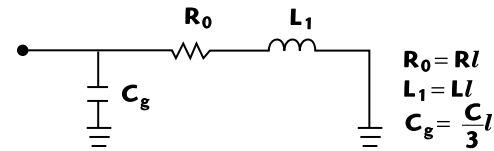

Figure 9: Low frequency lumped equivalent circuit for short-circuited lossy line
We recognize this as the admittance of the circuit shown in Figure 9. The inductance and capacitance both impose limits on how well matched we can make the termination over a given bandwidth.
In the late 1940s, H.W. Bode considered the problem of impedance matching two-element RC or RL loads.³ Bode's work was extended and generalized by Fano⁴ in 1950; Fano presented the limitations on impedance matching any load over an angular frequency range, ω_a to ω_b . However, for illustrative purposes, let us consider the case analyzed by Bode, i.e., where the inductive reactance is so much less than the value of the resistance at the highest frequency of interest that we can neglect the inductance altogether. For further simplicity, we take the lower frequency as zero (DC). Then, applying Bode's formula to the circuit of Fig. 9, the best possible results are limited as indicated by